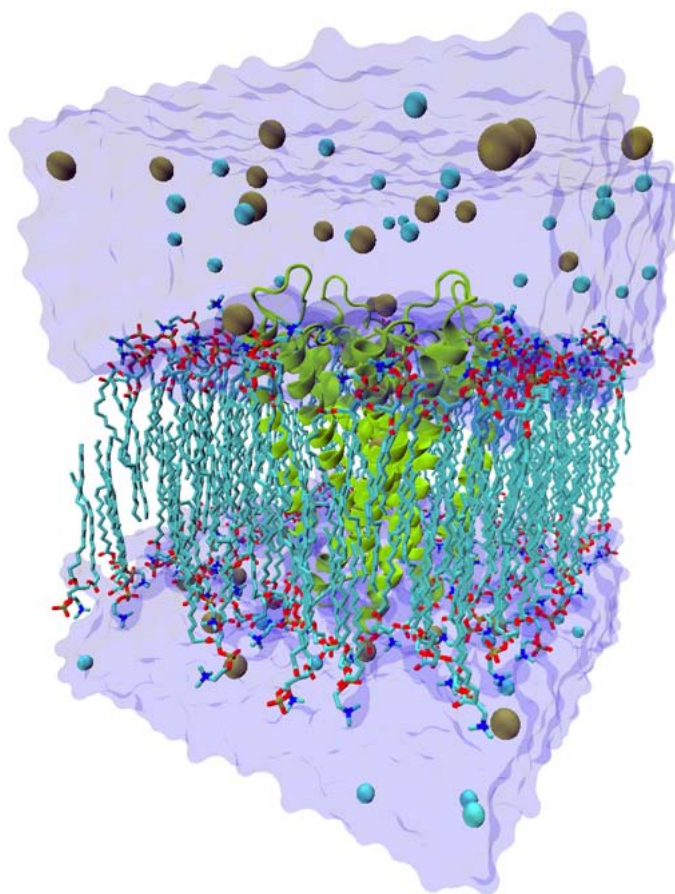

Figure 10: Final simulation system including the KcsA channel, a POPC membrane, water, and ions.
- 8 Load the output files of autoionize (`kcsa_popcwi.psf` and `kcsa_popcwi.pdb`) into VMD and check that the ions are really there and that the system is neutral (Fig. 10).